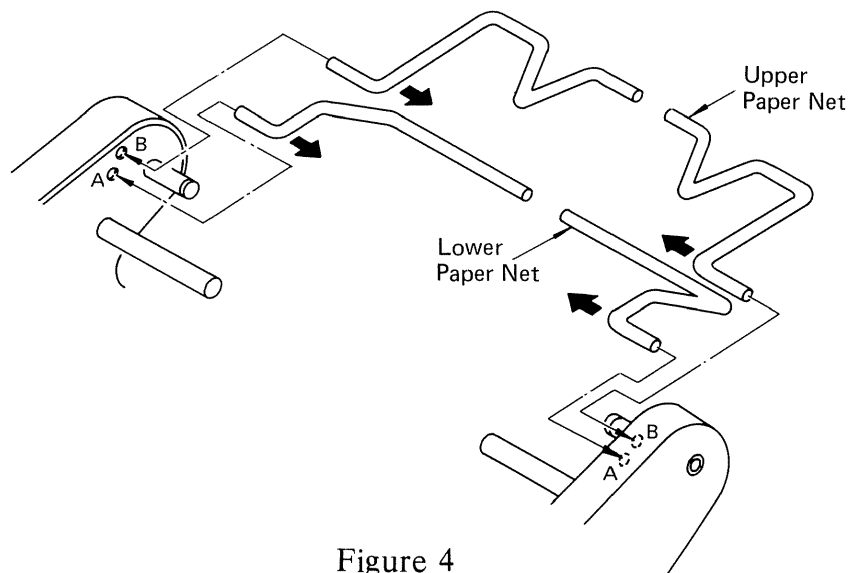

Figure 4
10. Insert the Upper and Lower Paper Nets (if not installed yet) by gently squeezing together and inserting the ends into the holes on the back of the Tractor Feed. (See Figure 4)